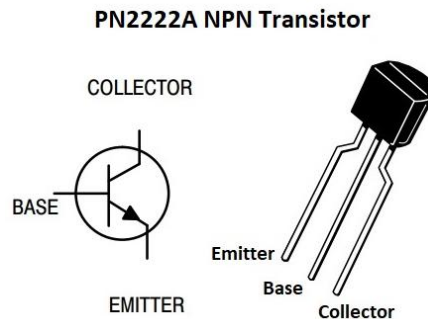

Fig. 8. Schematic symbol transistor and pin layout for PN2222A
1. Construct the circuit shown below. For the transistor shown in the diagram, the emitter pin will be connected directly to ground, the base is connected to the 100k Ohm resistor and photoresistor, and the collector is connected to the shorter end of the blue LED. A pin layout for the transistor is shown in Fig. 8.